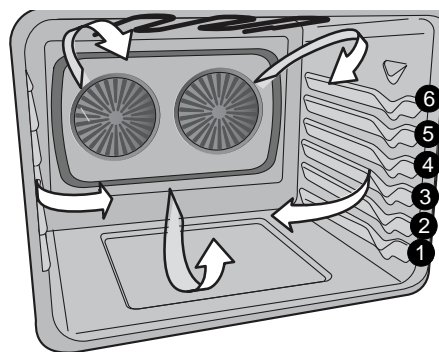

Figure 14: Convection air flow and rack positions
Convection Baking enables you to obtain the best results when baking with multiple pans and racks. The oven can be programmed for convection baking at any temperature between 200°F to 550°F. The convection function uses a fan to circulate the oven heat uniformly and continuously around the oven (Figure 14). This improved heat distribution allows for fast, even cooking and browning results. It also gives better baking results when using two oven racks at the same time.
- For best results when baking cakes using two oven racks, place Glide rack in position 4 with the flat handle rack in position 1. (See Figure 14).